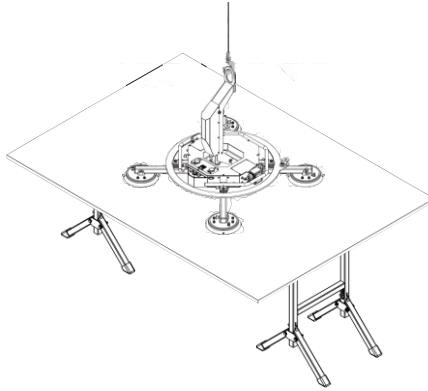

Figure 2.8
**Step 6:** Place the glass sheet at the desired location (Figure 2.8)